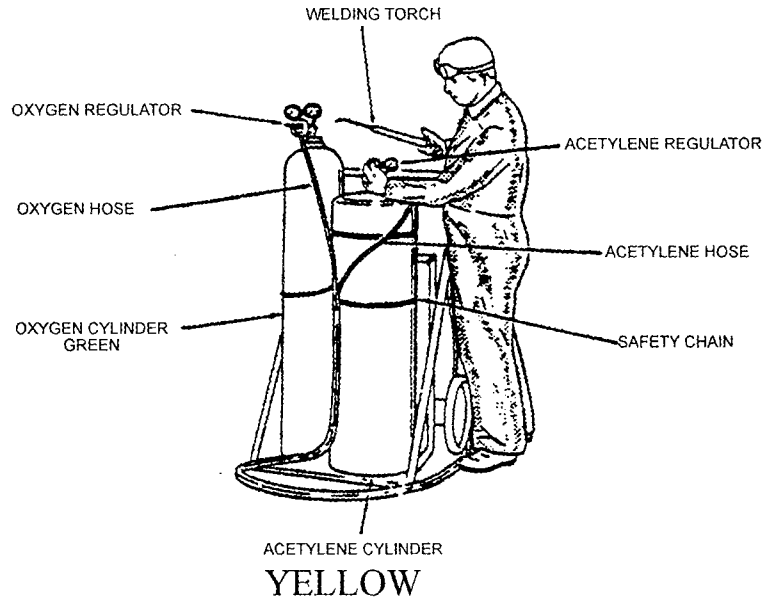

Fig. 3-5 Oxygen Acetylene Outfit
- a. Personnel using a cutting outfit must wear leather welder's gloves and a leather welder's jacket or apron and goggles. Fire retardant coveralls and safety shoes are also required (See **Figure 3-5.**)